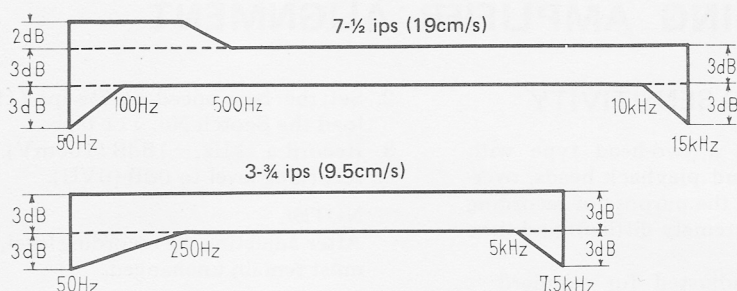

Fig. 23
2. Response deviation should be within the range shown in Fig. 23.